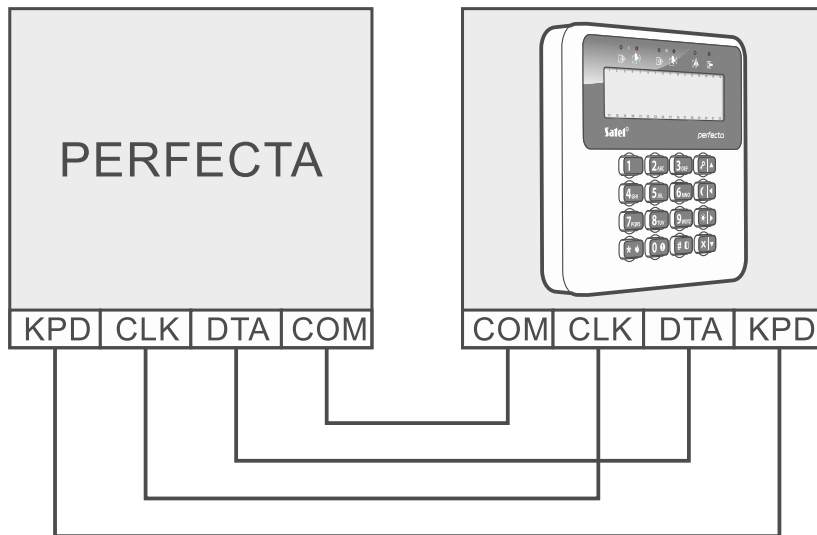

Fig. 4. Connecting keypad to the control panel.
6. Connect the keypad terminals to the corresponding terminals of the control panel (see: Fig. 4).